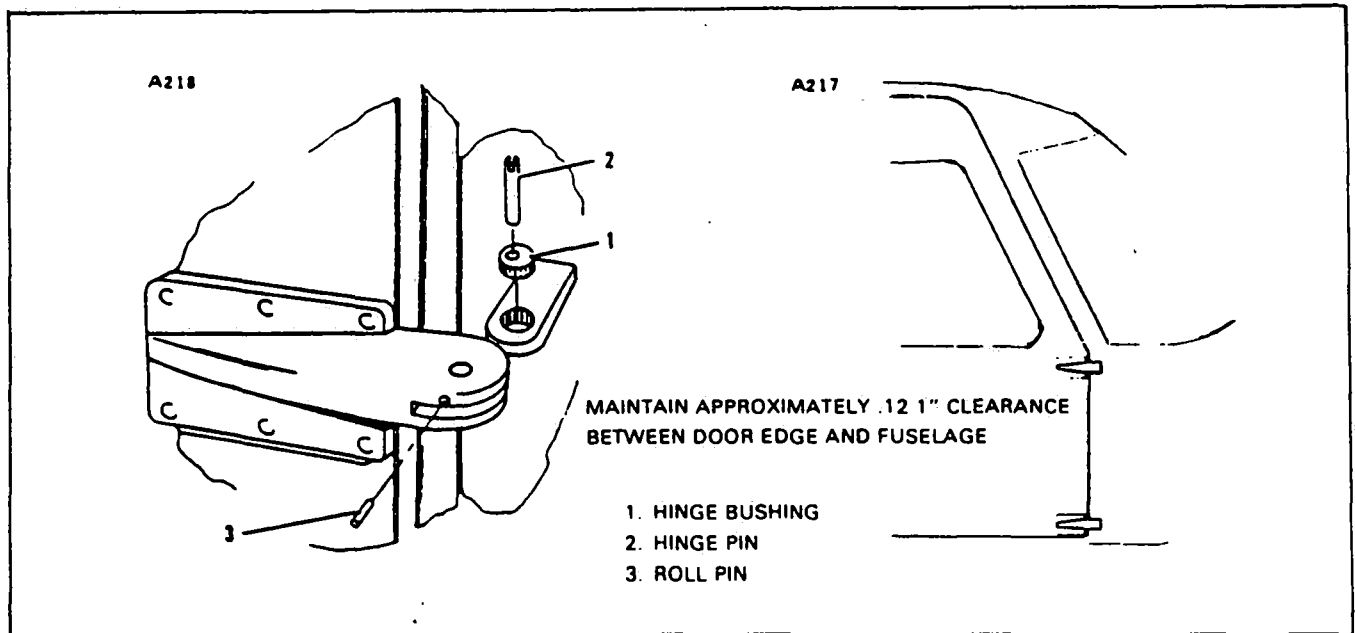

Figure 4-7. Door Installation
**4-41. INSTALLATION AND ADJUSTMENT OF CABIN DOOR.** (Refer to Figure 4-7.) The entrance door is made of formed aluminum assemblies spot welded together. This type of construction gives a ridges assembly, but still retains the flexibility needed for proper fitting of the door. When installing a new door, follow the procedure given below.
- b. Swing the door closed and check for alignment of the main door latch and the auxiliary latch with their respective latch striker plate. If the door fails to align, remove it and reposition the two serrated door hinge bushings (1). Repeat the above procedure until the door is properly aligned.
- e. With the door removed, use sandpaper to smooth the rough edges. Replace the door using the required hinge pins (2), staked with roll pins (3). Install the door holding assembly. Apply a light coat of oil to the latch assemblies.